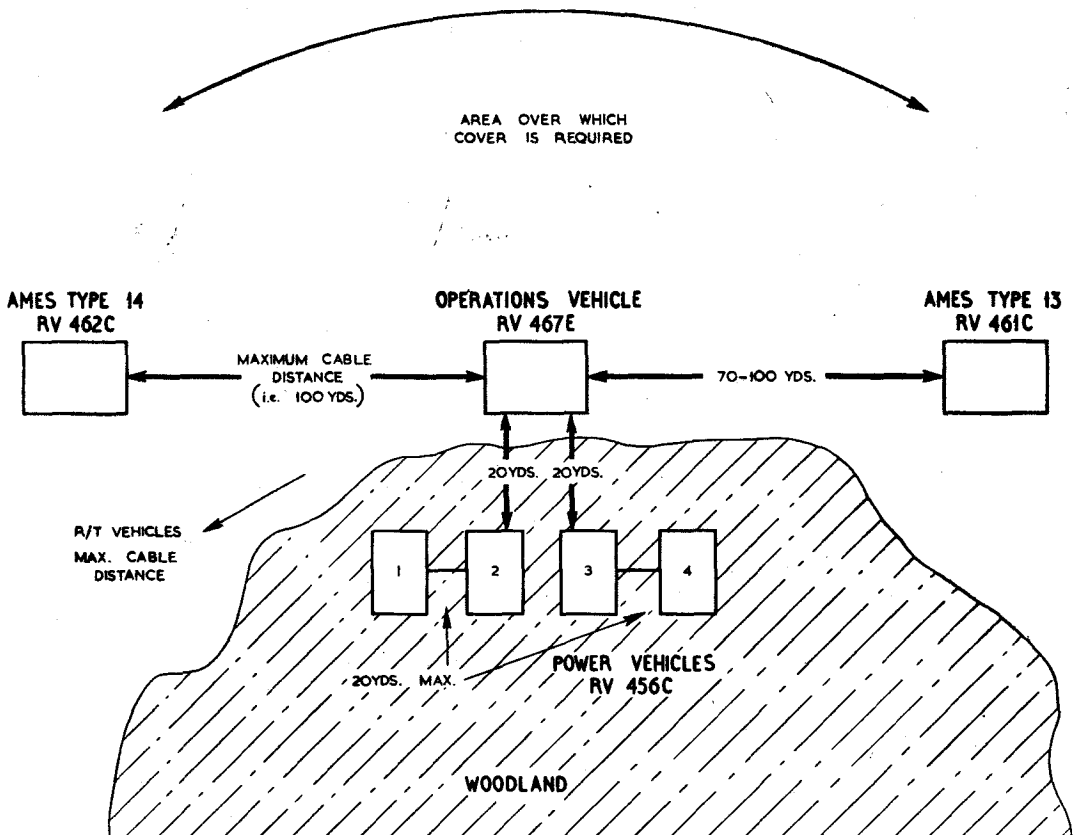

Fig. 1. AMES Type 21 Mk. 5 : example of site layout
10. Full details of the connections between vehicles are given in Chapter 2 but a suggested layout of the site is given in fig. 1.
18. The other vehicles in the convoy must by reason of the length of the cables lie within 100 yards of the aerials. Thus some screening by them is inevitable but can be reduced to a minimum by using the full lengths of the cables as shown in fig. 1.